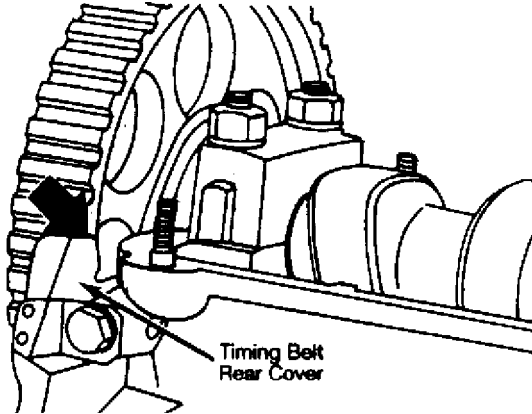

Fig. 3: Aligning Camshaft Sprocket
3) Set engine to TDC of compression stroke on No. 1 cylinder. Turn camshaft until timing mark on sprocket is aligned with upper edge of valve cover gasket (or rear timing belt cover). See Fig. 3. Install water pump with NEW sealing "O" ring, leaving bolts loose enough to move pump body.
2) Using crankshaft bolt, turn crankshaft clockwise to TDC of compression stroke on No. 1 cylinder. Align timing mark on back of camshaft sprocket with upper edge of gasket. See Fig. 3.